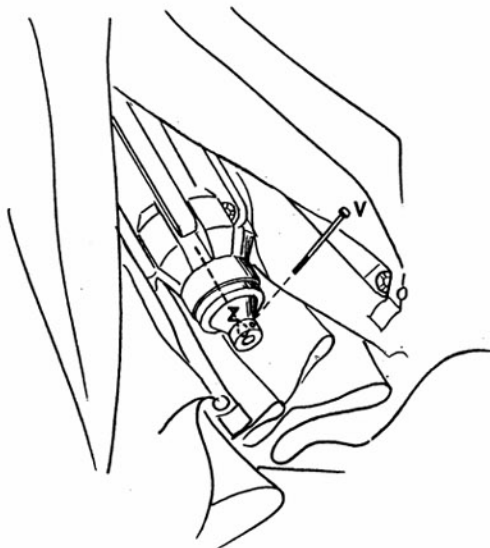

Fig. 6
## **REMOVAL OF THE WINCH AND THE FABRIC COVER OF THE UMBRELLA (fig. 6 - 6a - 6b):**
1. (fig. 6) unscrew screw (V) to free the rope (Z).